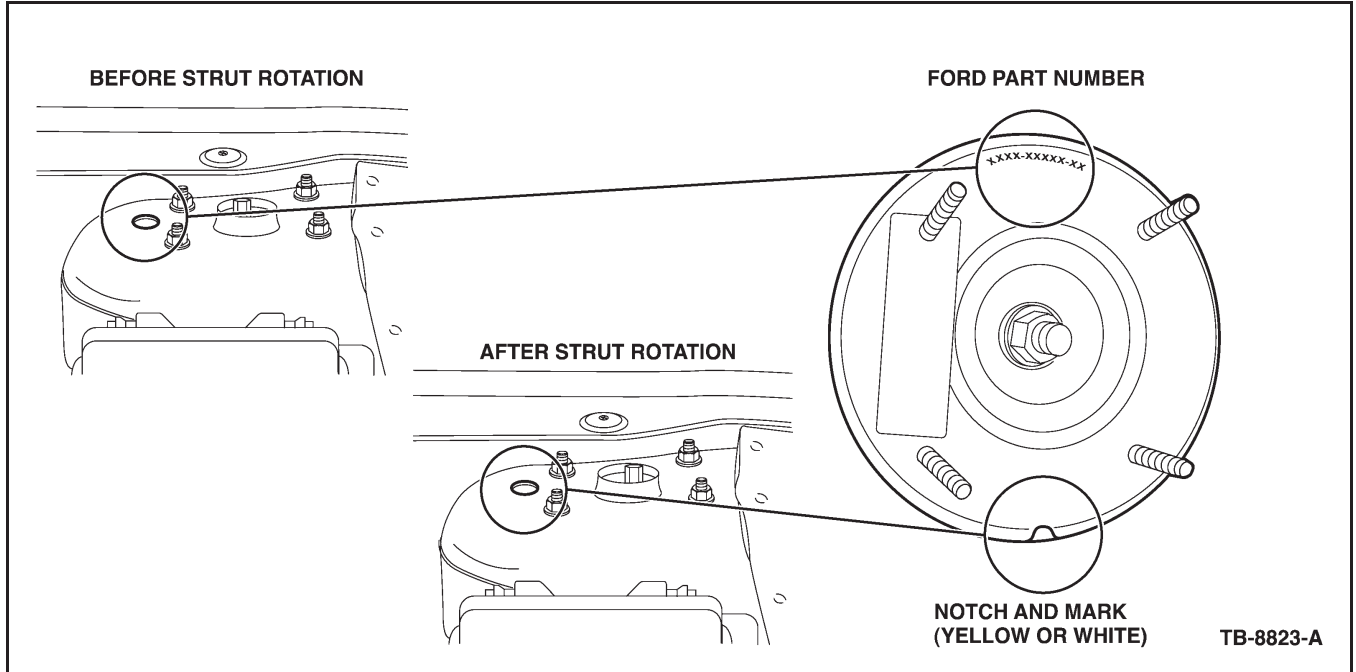

Figure 1 - Article 08-7-3
1. Inspect the left strut upper plate to verify which direction the arrow is pointing. (Figure 1)
2. If the arrow is pointing inboard as seen through the access hole in Figure 1, no rotation is necessary (positive 0.5 degree camber already there). Continue with Step 4.
1. Inspect the right strut upper plate to verify which direction the arrow is pointing. (Figure 1)
2. If the arrow is pointing inboard, as seen through the access hole in Figure 1, no rotation is necessary (positive 0.5 degree camber already there). Continue with Step 4.